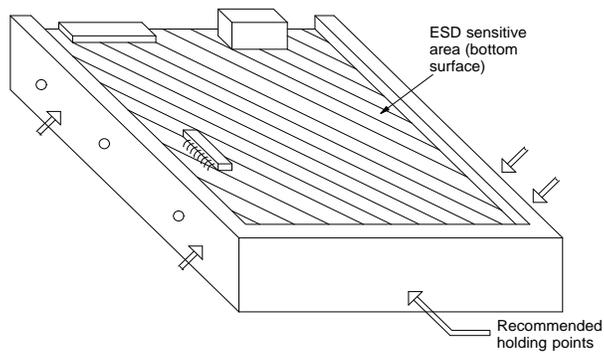

Figure 2-3. ESD-Sensitive Area of an Electronic Component
- Hold devices such as a hard disk, floppy drive, or streaming tape as you would a large circuit card. The ESD-sensitive area of these components is located on the bottom surface. Figure 2-3 shows the recommended holding points for these devices.